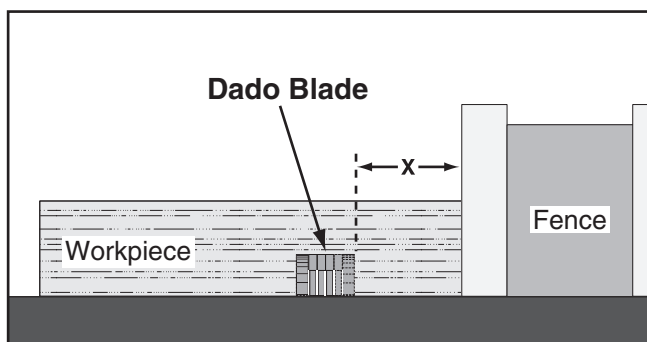

Figure 59. Example of a dado cut with a dado blade.
Commonly used in furniture joinery, a dado is a straight channel cut in the face of the workpiece. Dadoes can be cut using either a dedicated dado blade or a standard saw blade. **Figure 59** shows a cutaway view of a dado cut being made with a dado blade.
2. Adjust the distance between the fence and the inside edge of the blade, as shown in **Figure 59**, to dado the length of a workpiece.